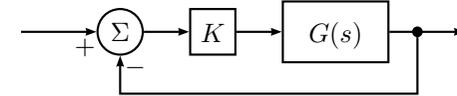

Figure 3.15a
3.15 A system $G(s)$ is controlled using feedback with a proportional controller according to Figure 3.15a.